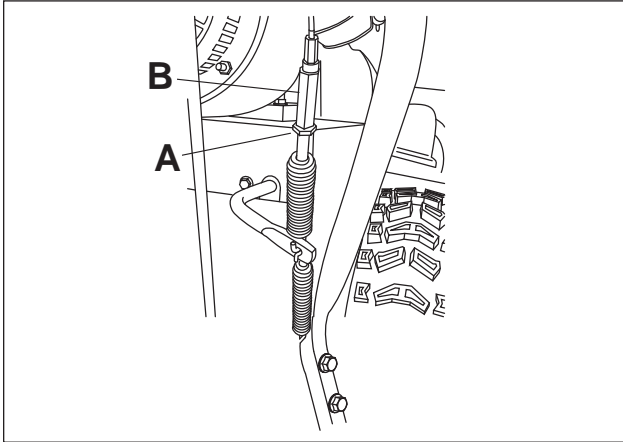

Fig. 011
1. Loosen the jam nut (Fig. 011).
2. Loosen or tighten the turnbuckle that adjusts the tension on the cable (Fig. 011).